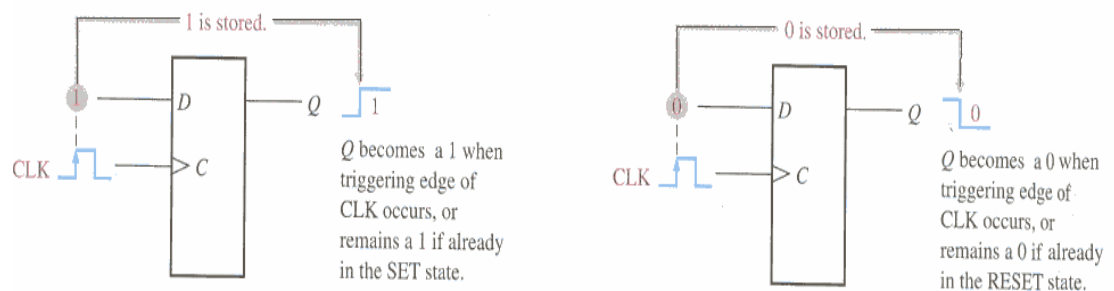

Figure 1.2: The flip-flop as a storage element.
- ??Two basic functions: data storage (Figure 1.2) and data movement (Figure 1.1).